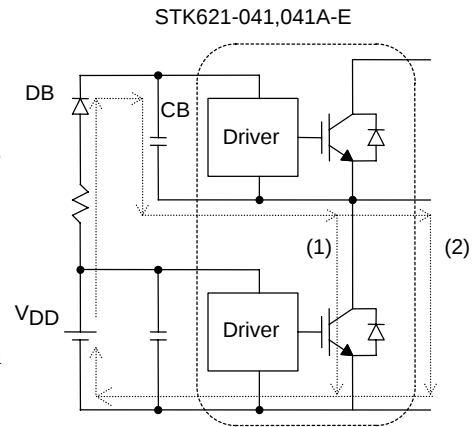

Figure 3 Bootstrap circuit and charge path
(4) VB1, VB2 and VB3 pins
These pins connect the positive power supplies for the upper-side power device pre-driver circuits. The three control power supplies each require an electrically insulated floating power supply. In addition to the method that uses three independent power supplies, this power supply can also be configured using the bootstrap circuit shown in Fig. 3. As shown in this figure, CB has a path (1) that is charged when the lower-side device is ON, and a path (2) for motor regeneration mode. The CB section voltage fluctuates according to the switching frequency and duty ratio of the external control circuit. Therefore, the CB capacitance value must be set in consideration of the voltage fluctuation. DB should use a high-speed type FRD with a fast t_{tr} and $VR = 600V$. RB is used to limit the rush charging current during CB initial charging. Note that a large rush charging current may cause the internal circuits to malfunction. CB can also be charged before startup by connecting high-value resistors to the output pins and minus pins. (Care must be taken for the withstand voltage and the power.)